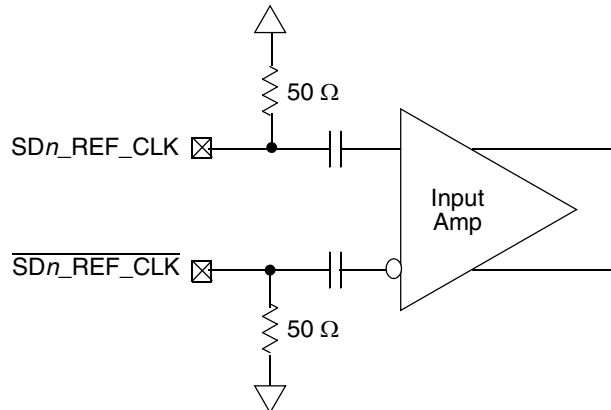

Figure 37. Receiver of SerDes reference clocks
- The SD_REF_CLK and $\overline{SD_REF_CLK}$ are internally AC-coupled differential inputs as shown in Figure 37. Each differential clock input (SD_REF_CLK or $\overline{SD_REF_CLK}$) has a 50- Ω termination to $SGND_SRDS$ followed by on-chip AC-coupling.